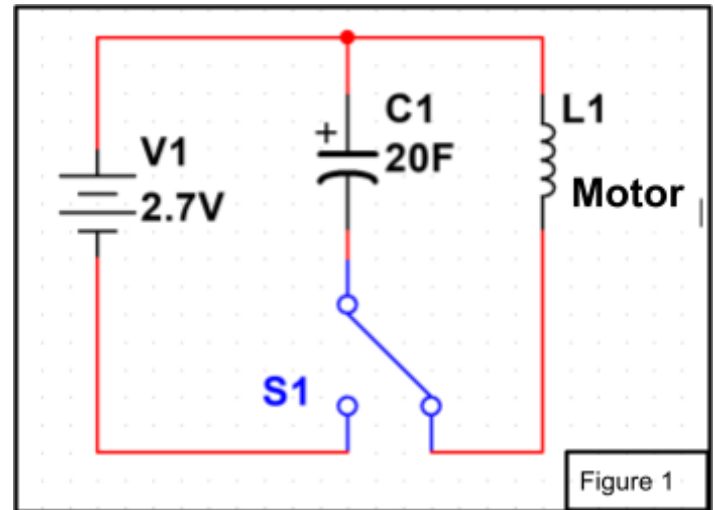

Figure 1
5. We then constructed figure 1 to test the circuit that we will be using for the car on a breadboard.